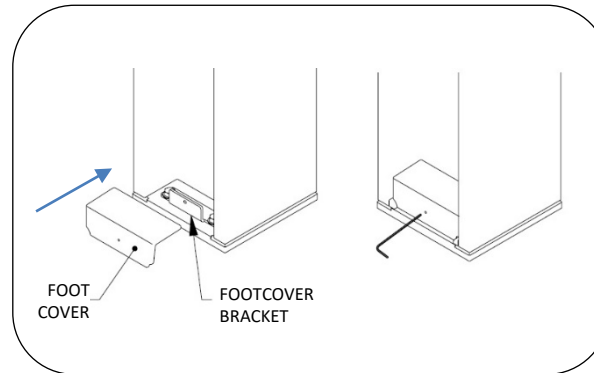
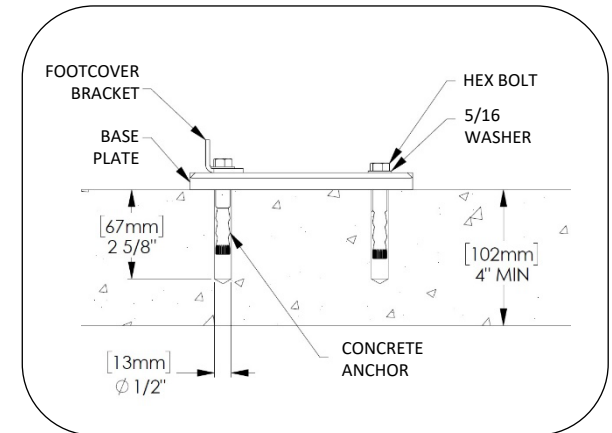

Fig. 8 – install footcover
Fig. 6 – Anchor detail
4. Drill holes according to anchor size and depth, see Fig. 6. Clear holes of debris.
11. Set bollard in position. Place footcover bracket in position, see Fig. 6 and Fig. 8. Install washers and hex bolts. Tighten securely.
12. Install footcover castings, see Fig. 8. Use 5/64 hex key to back out set screw that is preinstalled in footcover casting until end of set screw is flush with casting. Align casting with hole in footcover bracket and thread set screw in to engage.